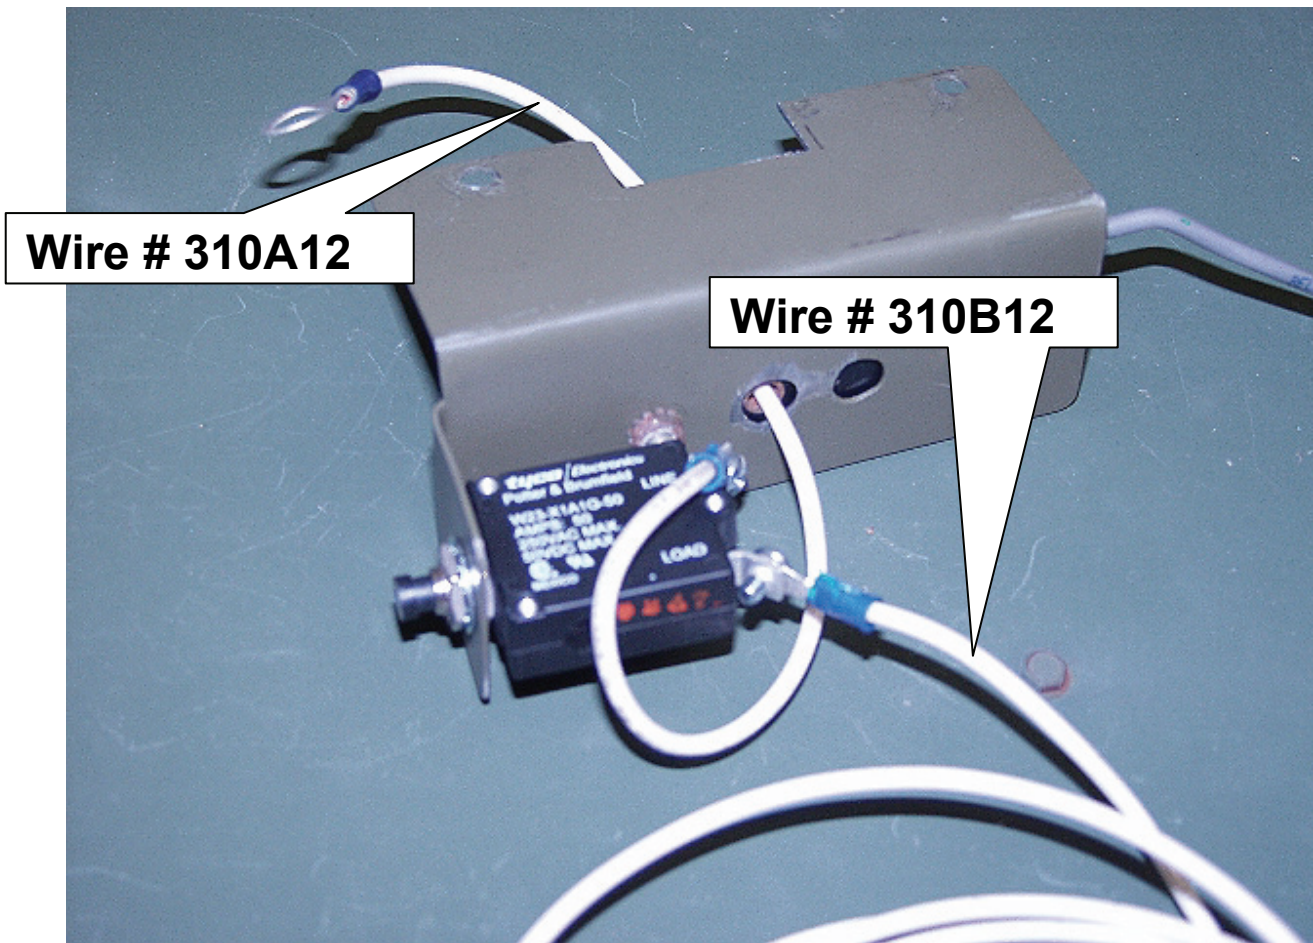

Figure 4 CB1/BCT Bracket Assembly
7. Install the 0.164 inch stud size lug terminal of wire # 310B12, on the load terminal of the circuit breaker (CB1) so that the lug terminal is parallel to CB1 on the label side as shown in figure 4.
9. Install the 0.164 inch stud size lug terminal of wire #310A12, on the line terminal of CB1 so that the lug terminal is perpendicular to CB1 on the label side, as shown in figure 4.
10. Install CB1 into side hole of the battery charging current transformer bracket as shown in figure 4.
11. Fish the other end of the wire # 310A12 through the bracket into the battery charging current transformer as shown in figure 4. Install 10-12 gauge, 3/8 inch stud size lug terminal to the end of the wire.